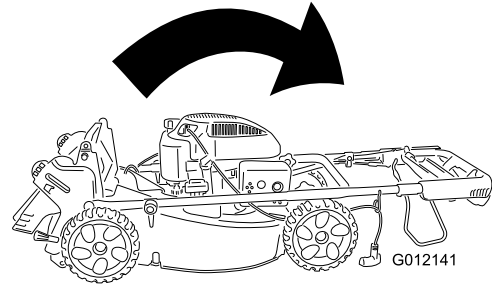

Figure 27
1. Rotate the handle forward (Figure 27).